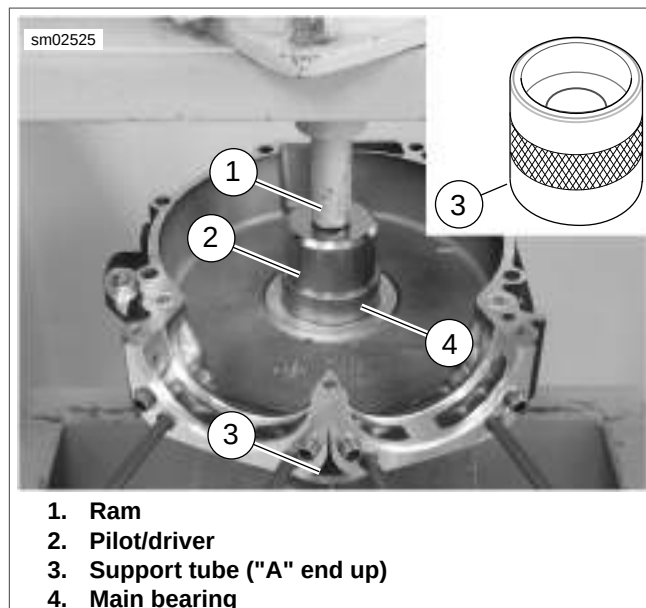

Figure 3-131. Left Main Bearing Installation
2. See Figure 3-131. Obtain **new** main bearing (4). Place a thin film of clean engine oil on outer diameter of bearing.
3. Place support tube (3) on hydraulic press table with the "A" end up.
6. Slide pilot/driver (2) through bearing into support tube.
7. Center pilot/driver (2) under ram (1) of press. Apply pressure to pilot/driver until bearing is lightly bottomed in main bearing bore.